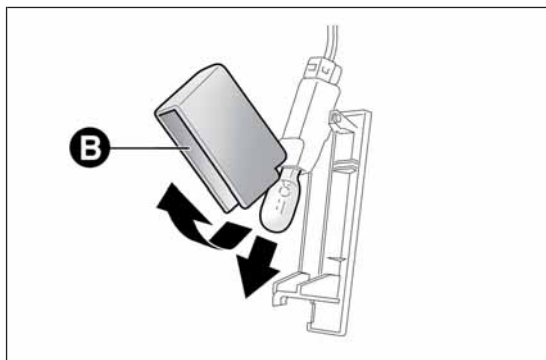

fig. 144
- ☐ open the protection B fig. 144 and replace the bulb;